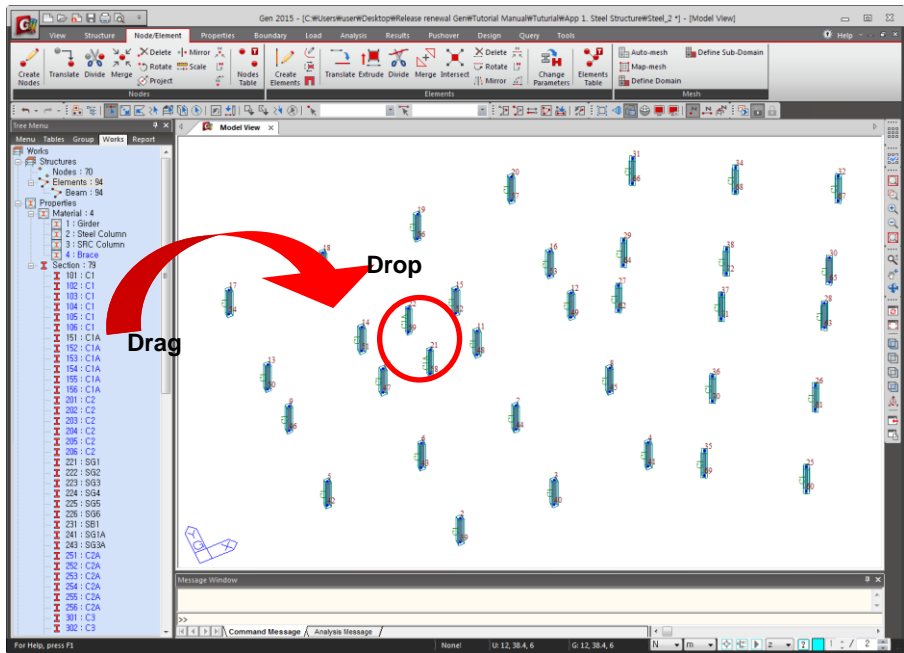

Figure 1.24 Modify the column number using Drag & Drop
**Select Single (Elements 83, 84)** (Refer to Figure 1.24)